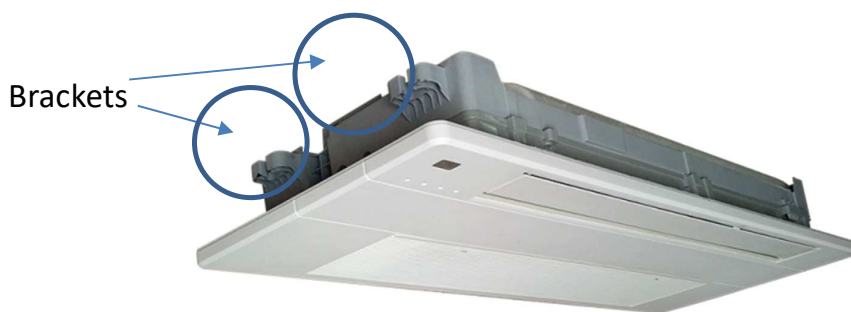

Figure B.4
- Do not lift unit by the condensate drain discharge pipe, by the water connections or by front panel; lift the unit using four mounting brackets. (Figure B.4)